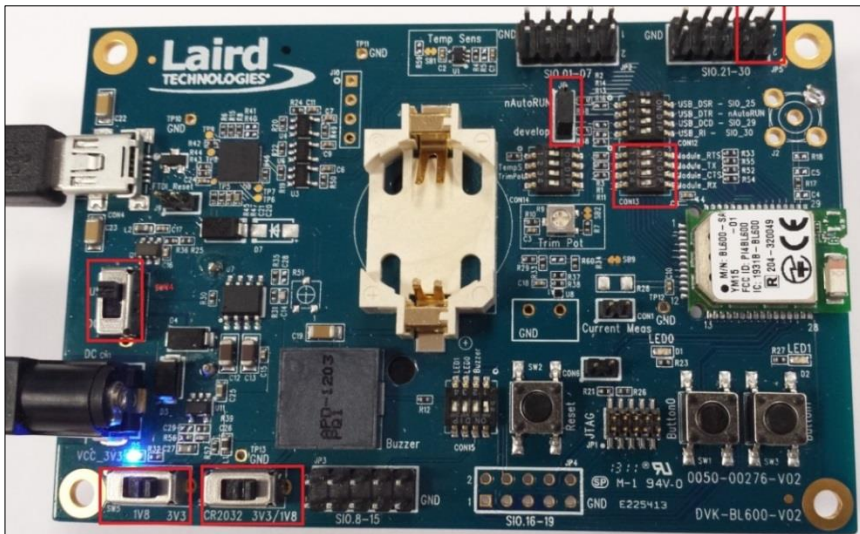

Figure 2: Switch and jumpers position
1. Configure the BL600 development kit to the following settings (Figure 2):